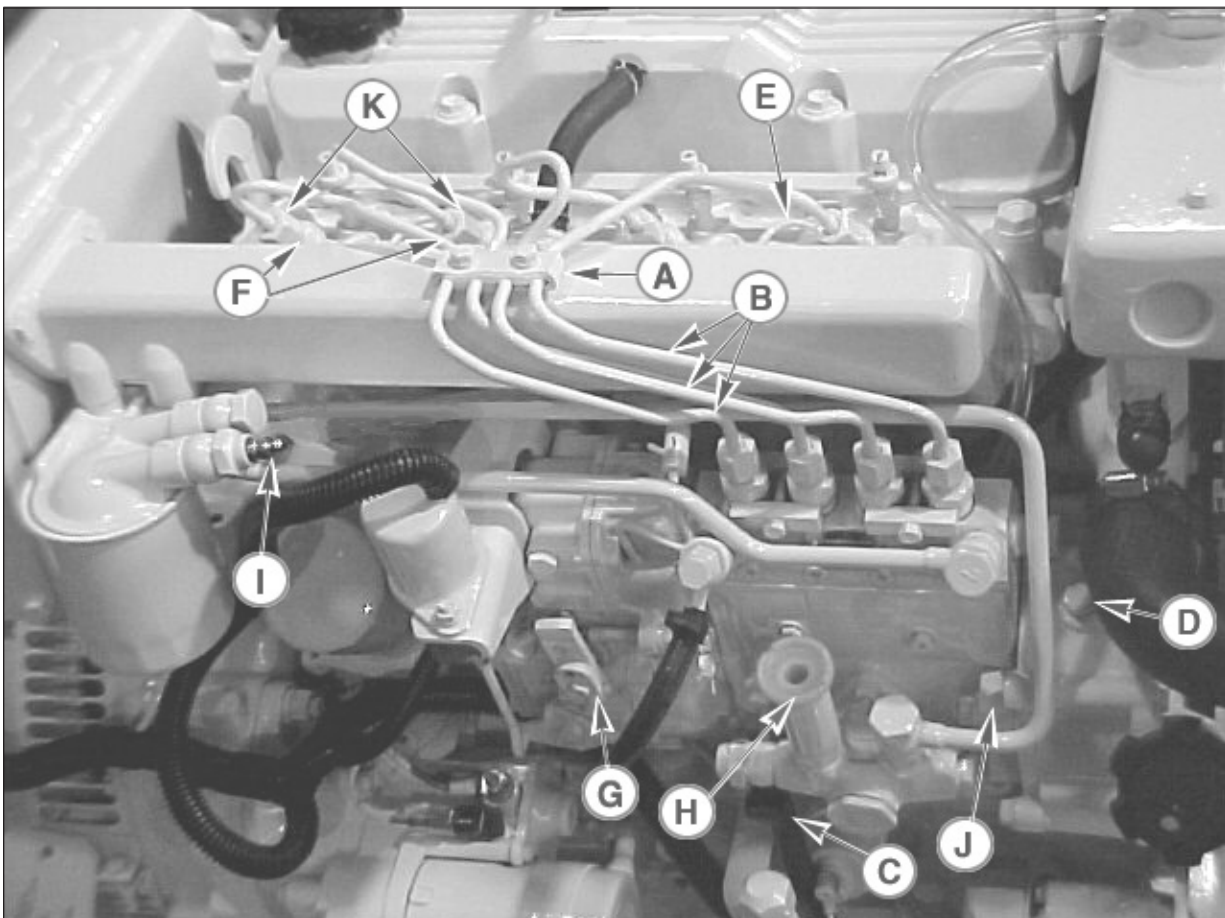

Figure 12: Fuel System
- c. Remove delivery lines (Figure 12-B) by disconnecting from injectors and injection pump. Remove all lines as an assembly; do not remove the spacers. Cover the ends of the lines, the injector inlets and injection pump outlets to keep dirt out.
- e. Loosen the injector (Figure 12-I). Remove the injector.
- c. Reinstall injection lines (Figure 12-B). Tighten flare nuts (Figure 12-K) at injection pump to 18.2 - 25.3 ft/lbs (2.5 - 3.5 k/gm). Leave the lines loose at injectors for bleeding.
- d. Bleed the injection lines (Figure 12-B). Crank the engine to fill the lines. Tighten flare nuts at injectors to 18.2 - 25.3 ft/lbs (2.5 - 3.5 k/gm).
- Remove the injection lines (Figure 12-B) from the pump and injectors. Remove all lines as an assembly. Do not remove the spacers. Cover the ends of the lines, the injector inlets, and the injection pump outlets to keep dirt out of the injectors, lines, and pump.
- Remove the plug (Figure 12-D) from the timing case cover. Use an indelible marker to put a mark on the injection pump gear through the plug hole. You will use this mark to align the pump during reassembly. Do not rotate the crankshaft after marking.
- Remove the 4 mounting nuts (Figure 12-J). One (1) is found on the back side of the injection pump, and three (3) are found on the front side.
- Pressurize the system with the hand primer pump (Figure 12-H).